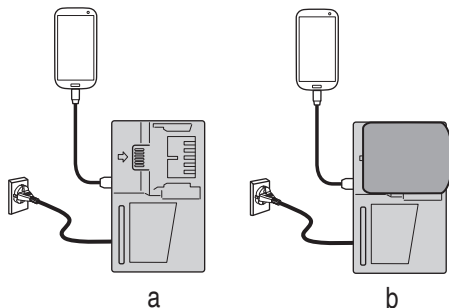

Fig. 19
- Charging a USB device from a electrical outlet (Fig. 19-a).
- Charging a USB device and battery from a electrical outlet.(Fig. 19-b)